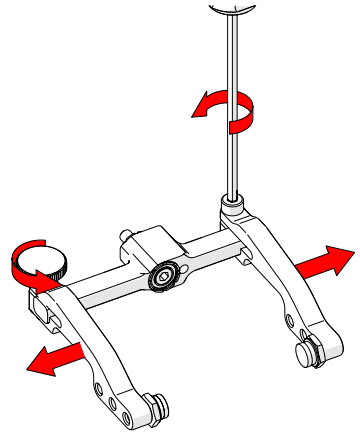

Fig. 58 - Remove probe holder arms
3. Loosen the probe holder arm adjustment knob and the arm clamp screw. Slide the probe holder arms off the yoke (Fig. 58).